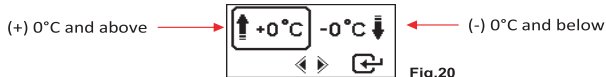

Fig.20
16. The analyser will take surrounding temperature into consideration and prompt for temperature input shown in Fig.20 below when it detected marginal (SOC below 75%) battery condition: